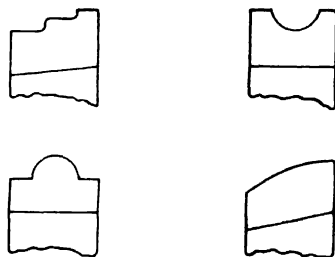

Fig. 14-16. Forming tools
**The Forming Tool.** The larger filleted corners are best roughed out with a large round-nose tool, using both hand feeds simultaneously. An approximately correct gage cut from sheet metal may be advisable. The best tool to use for finishing a large fillet or a rounded corner of almost any size over  $\frac{1}{8}$ -in. radius is termed a *forming tool*. Forming tools are often forged and then filed to the desired shape. Figure 14-16 illustrates a selection of typical forming tools that are used with a tool